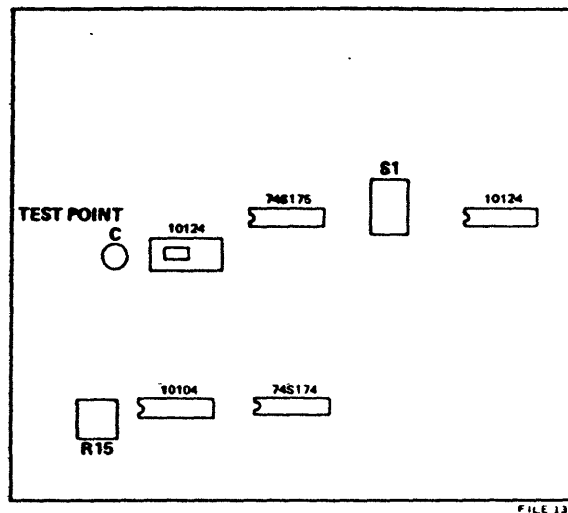

Figure 20-9. Radial PCBA Test Points
- d. Set switch SW-1 on the radial PCBA (Figure 20-9) as follows: SW1-1 OFF, SW1-2 through SW1-4 ON.